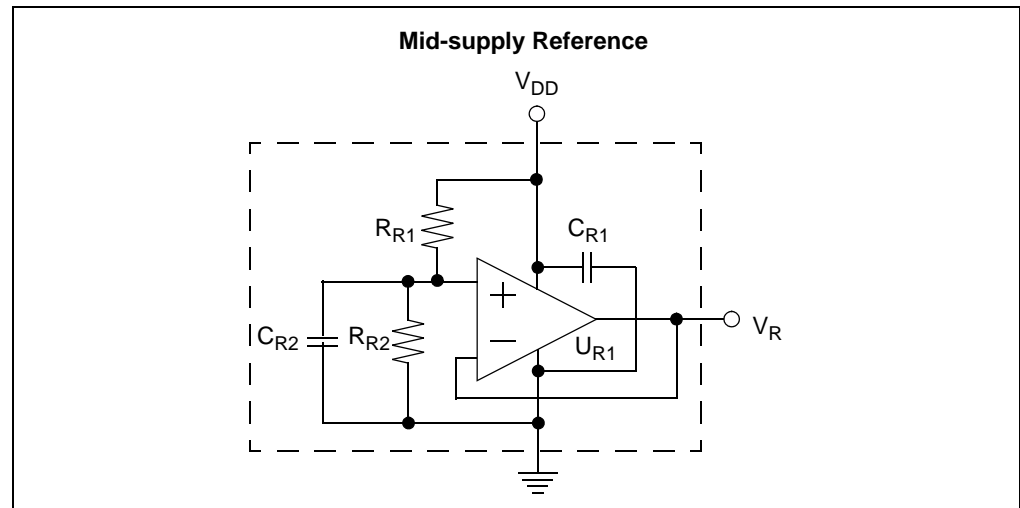

FIGURE 2-4: Mid-Supply Reference Block.
The mid-supply reference consists of a voltage divider and a buffer amplifier. (See **Figure 2-4: "Mid-Supply Reference Block."**)
The mid-supply reference consists of a voltage divider and a buffer amplifier. Figure 2-4 shows the circuit diagram for the mid-supply reference.
- Source configuration consists of an inverting amplifier and a jumper. Figure 2-4 shows the circuit diagram for the source configuration.